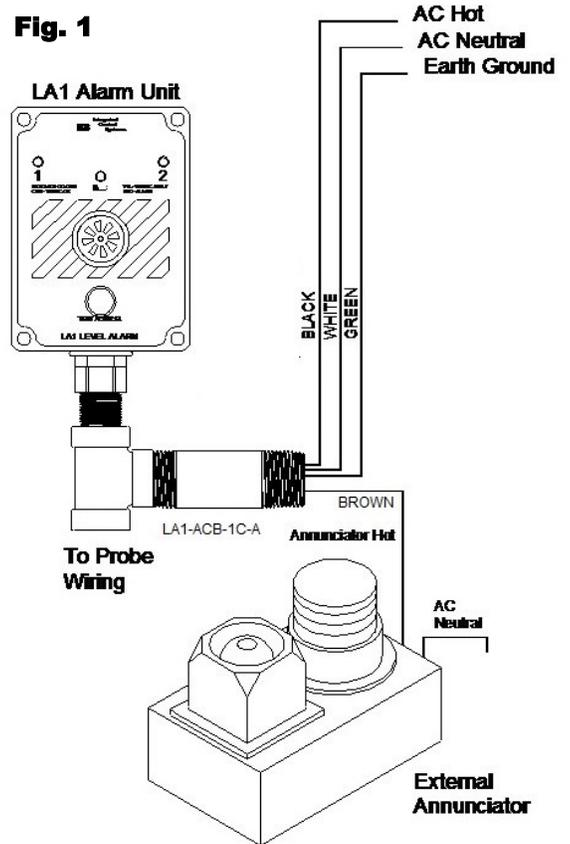

Fig. 2
6. Connect the barrier Brown wire to the annunciator black. Connect the annunciator white to neutral, and green to earth ground. See Fig. 2.